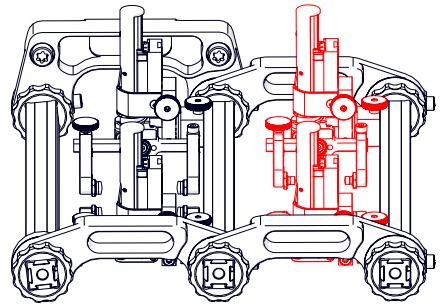

Fig. 140 - Remove vertical probe holders
1. Remove vertical probe holders (Fig. 140).